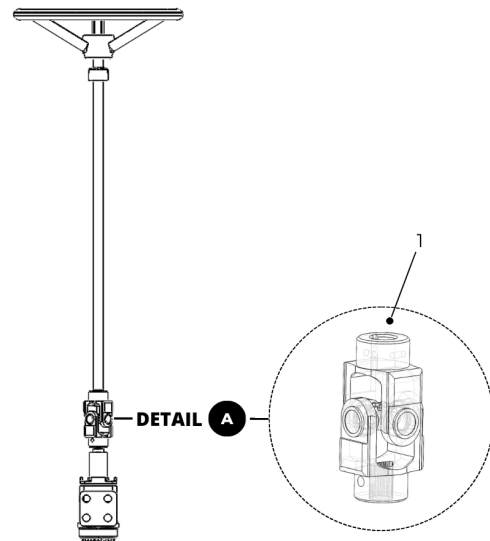
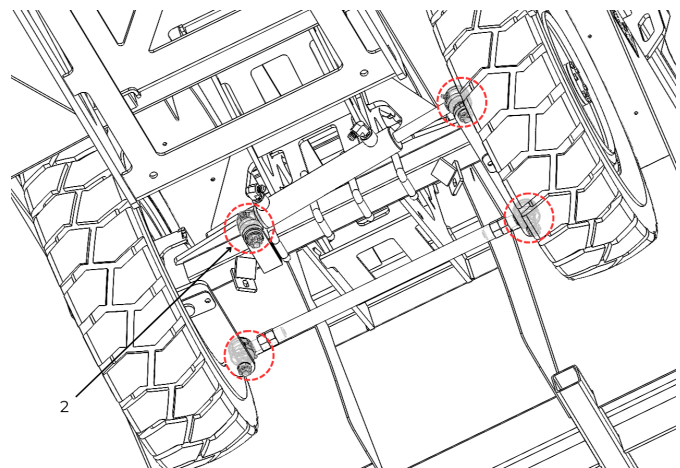

Figure 29. Universal Joint Inspection.
Figure 30. Tie rods Inspection.
1. Inspect the universal joint (1) and the four ball joint (2) for (See Figures 29 and 30):
Lubricate the grease fittings of the following components (See Figure 29 and Figure 30) :